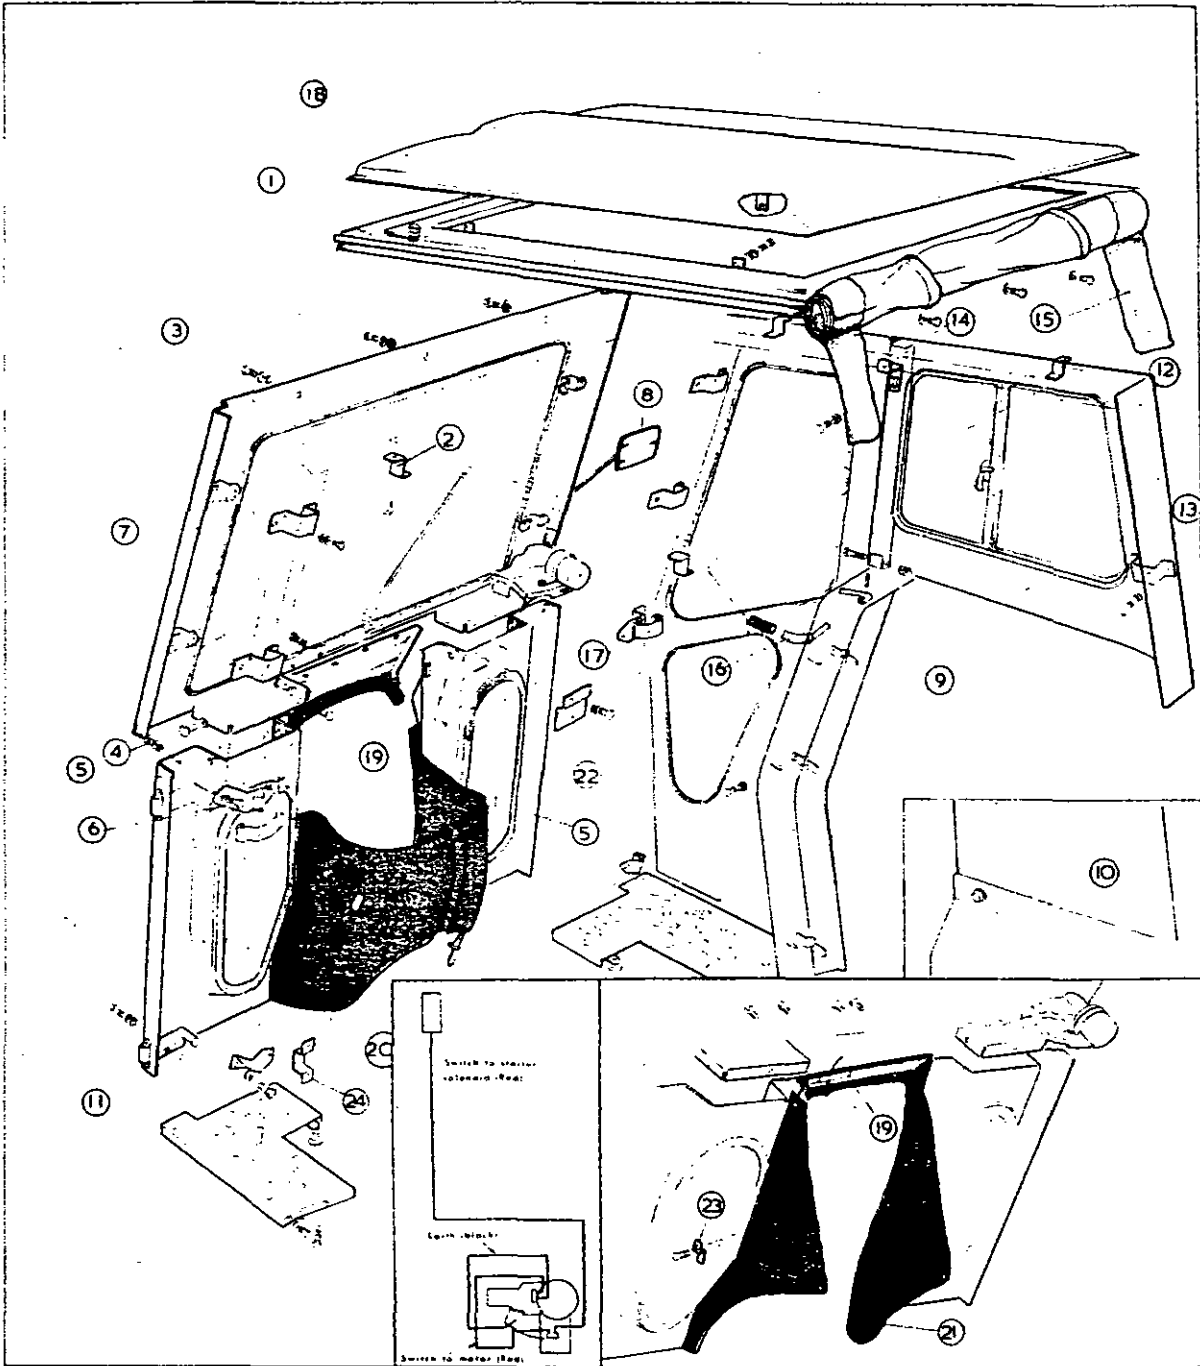

FIG. 4
2. Fig. 4. Position the roof rail (1) on the top of the safety frame, ensure that the narrow groove is on the underside and that weld nuts are situated to the front and rear. Assemble four 'Z' retainers (2) to secure the roof rail to the safety frame. Use four  $\frac{1}{4}$  UNC x  $\frac{3}{8}$  in bolts and nuts, together with plain washers and spring washers. Assemble with nuts at the top and both washers under each nut.
3. Fit sealing strip (19) to the lower centre edge of the windscreen panel using angle bar as shown. This bar incorporates four weld nuts and is used to sandwich the sealing strip to the inside bottom edge of the windscreen panel. Use four No. 10 x  $\frac{1}{2}$  in bolts, spring washers and plain washers.
4. Position the windscreen assembly (3) against the safety frame front members and attach it to the roof rail (1) using three  $\frac{1}{4}$  UNC x  $\frac{3}{8}$  in bolts screwed into weld nuts. Use a spring and a plain washer under each bolt head.
5. Before fitting lower front panels, disconnect the throttle control rod from the throttle pedal. Position the lower front panels (5). On the R.H. panel, feed the throttle control rod through the hole in the skirt, then reconnect the throttle